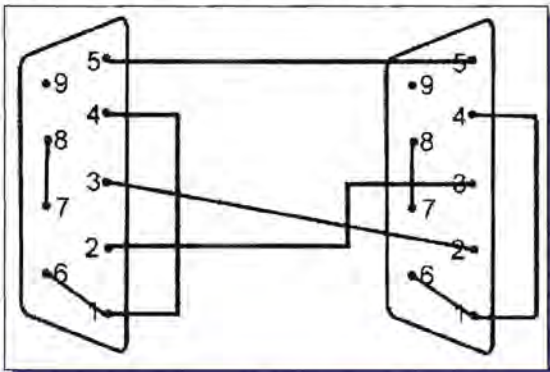

Figure 3: Null modem cable configuration
**2. Connection diagram** – The connection diagram (Figure 3) shows the wiring of the null-modem that is intended for RS232 asynchronous communications (most PC-based systems). This configuration is called so because each PC terminal detects as if some modem is connected to it rather than the other PC.